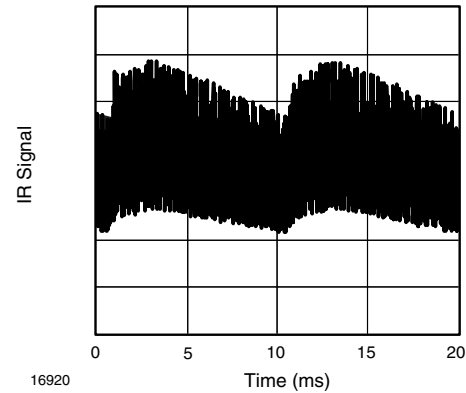
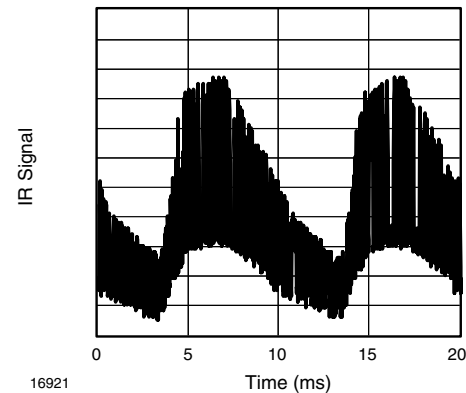

Fig. 14 - IR Disturbance from Fluorescent Lamp with Low Modulation
Fig. 15 - IR Disturbance from Fluorescent Lamp with High Modulation
- Strongly or weakly modulated patterns from fluorescent lamps with electronic ballasts (see fig. 14 or fig. 15)